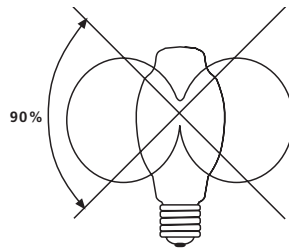

Figure 1
**2 Light distribution:** The light distribution of HID lamps greatly favors use in the vertical position. 90% of all the lamp output is emitted to the sides (figure 1).